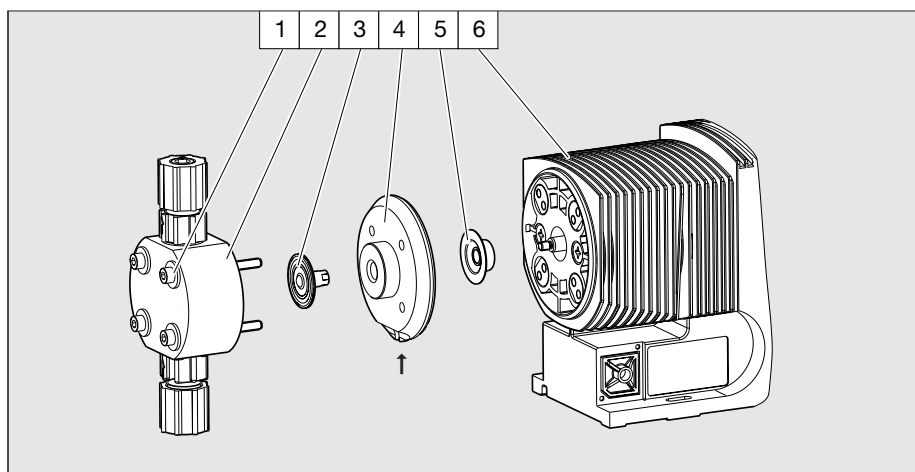

Fig. 11
- Pump diaphragms (see Fig. 11 and 12)
- **The leakage bore must face downwards when the pump is subsequently installed (See Fig. 11, arrow)**
- **Place the head washer (4) in exactly in the right position on the pump housing (6). Do not twist the head washer (4) on the pump housing (6), this will cause the safety diaphragm (5) to distort.**
- ▶ Insert the diaphragm (3) into the head washer (4).
- ▶ Hold tightly onto the head washer (4) and screw the diaphragm (3) clockwise until it is sitting firmly (you will feel the return spring resistance).